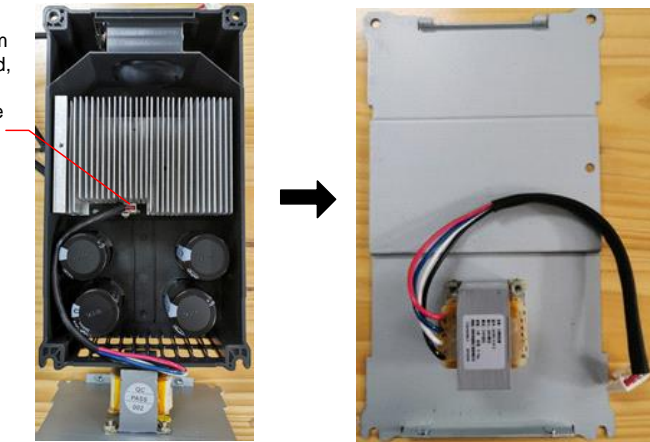

Figure 6-2 Diagram for disassembling the power-frequency transformer
2. Disassemble the VFD and turn it over 180 degrees, and separate the base plate from the body of the VFD with a screwdriver, as shown in Figure 6-2.